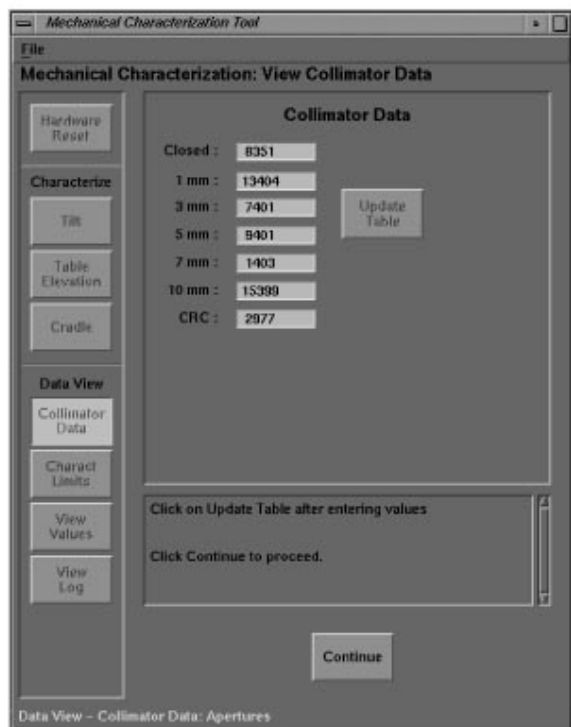

Figure 4-12 COLLIMATOR DATA
- 1.) Select the COLLIMATOR DATA softkey shown in Figure 4-12.